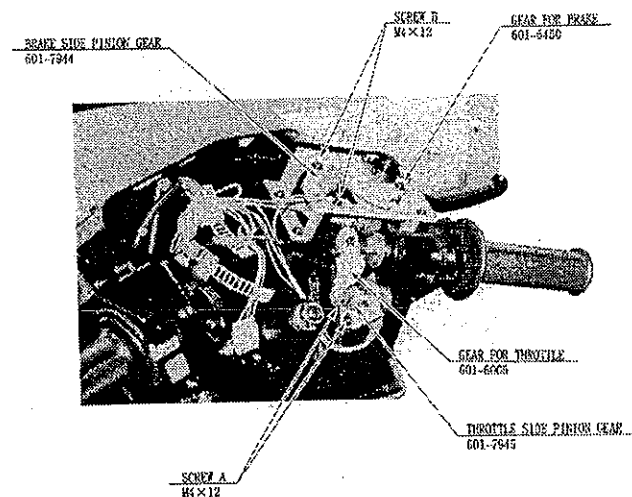

FIGURE 35: THROTTLE AND BRAKE GEAR ACCESS
5. Release the two screws which hold the Throttle or Brake Gear Brackets so that it can be moved freely to the left and right (Throttle: Screws A; Brake: Screws B) (see Figure 35).